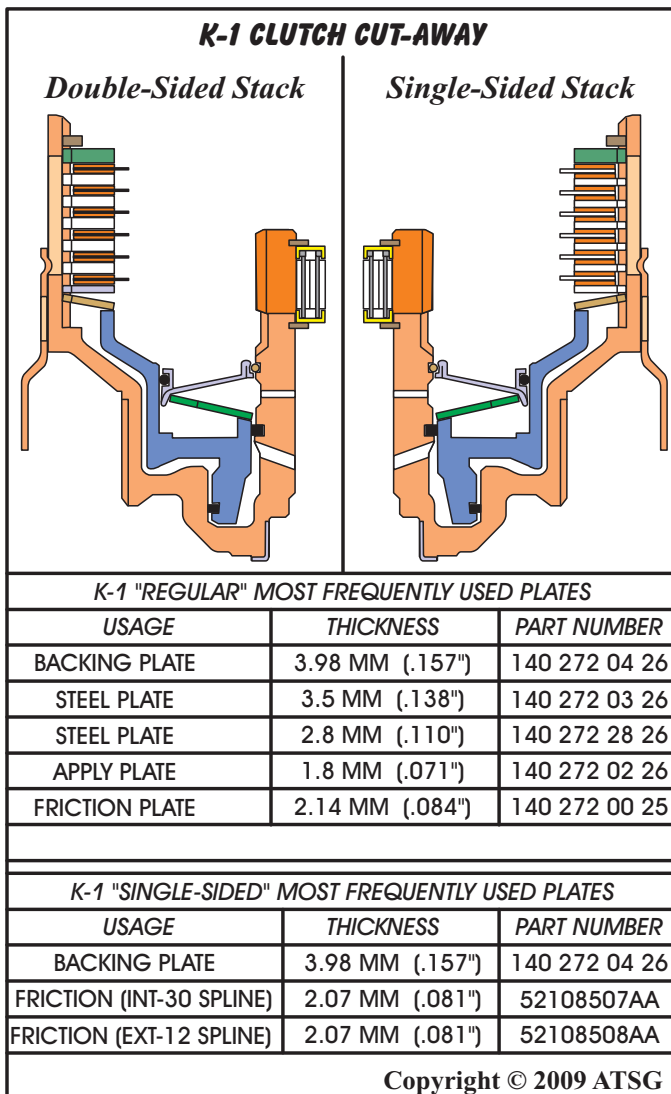

Figure 93
**Note: Steel plate thickness will vary depending on snap ring groove location and number of frictions required. (See chart Figure 93).**